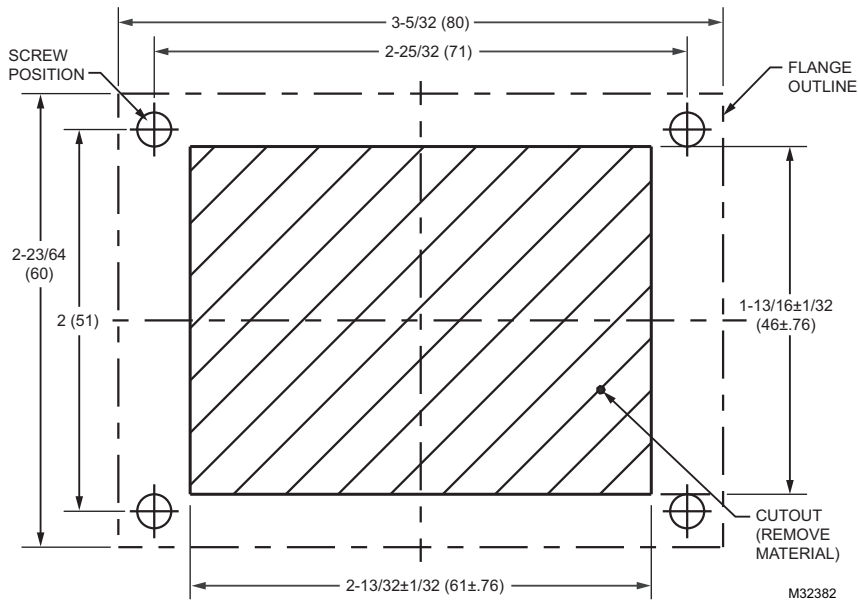

Fig. 8. Mounting Template to Scale (1 in. = 1 in.).
NOTE: See Fig. 8 on page 4 for an exact size mounting template.
The sensor is mounted in the air stream using the duct mounting kit. Use #6 or #8 screws (screws are not provided and must be obtained separately). Use the dimensions listed in the “Specifications” and the template in Fig. 8 on page 4 as a guide.
1. Use the template in Fig. 8 on page 4 to cut the access hole in the sheet metal ductwork. It is important that you use the template so that the hole in the ductwork is sized correctly to allow for the four mounting holes on the flange.
NOTE: Cut out and use the Mounting Template in Fig. 8 to make the access hole in the ductwork. The template is printed to scale where 1 inch = 1 inch.